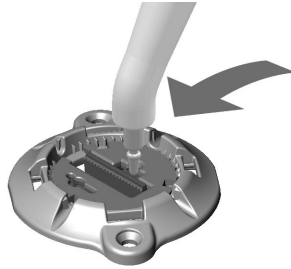

Figure 22. Lock the Slider
- Place the tip end of the Placement/Removal Tool into the closure dimple or anywhere along the length of the Slider on the Retaining Clip to push the Slider towards the DBS Lead until it locks into place. Use the tip end of the Placement/Removal Tool to apply pressure on the Slider face in the opposite direction to ensure that the Slider is fully locked (Figure 22).